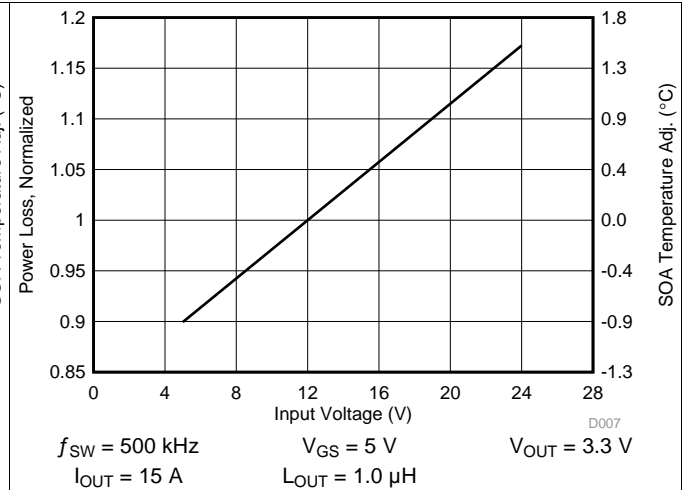

Figure 7. Normalized Power Loss vs Input Voltage
- Normalized power loss for input voltage ≈ 1.05 (Figure 7)
- SOA adjustment for input voltage ≈ 0.5°C (Figure 7)